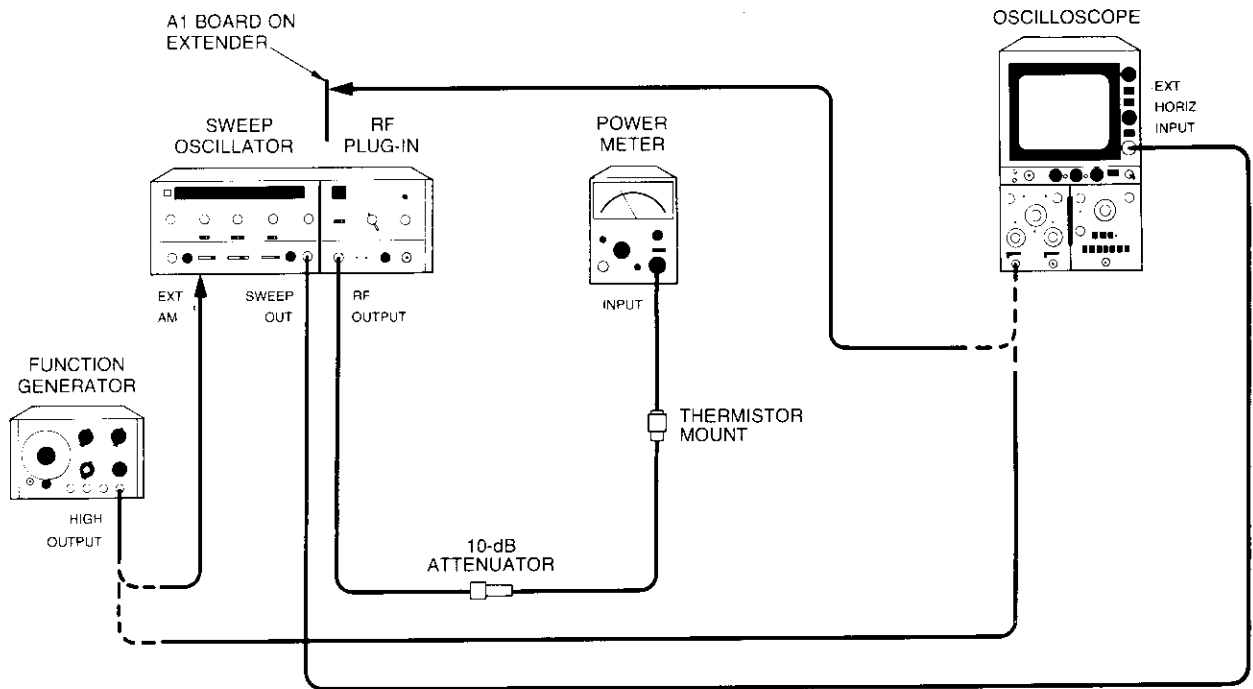

Figure 5-16. ALC Adjustments Test Setup
Equipment listed is for two test setups, Figures 5-16 and 5-17.
- a. Connect equipment as shown in Figure 5-16 with oscilloscope connected to function generator. Set function generator to 27.8 kHz square wave, and amplitude (as shown on oscilloscope) to $\pm 6V$ p-p.
- t. Connect oscilloscope to 86290A A1TP6 as shown in Figure 5-16.
- w. Set ALC Function switch A1S1 Position # 3 Up (ON). Set 86290A POWER LEVEL control fully counterclockwise.